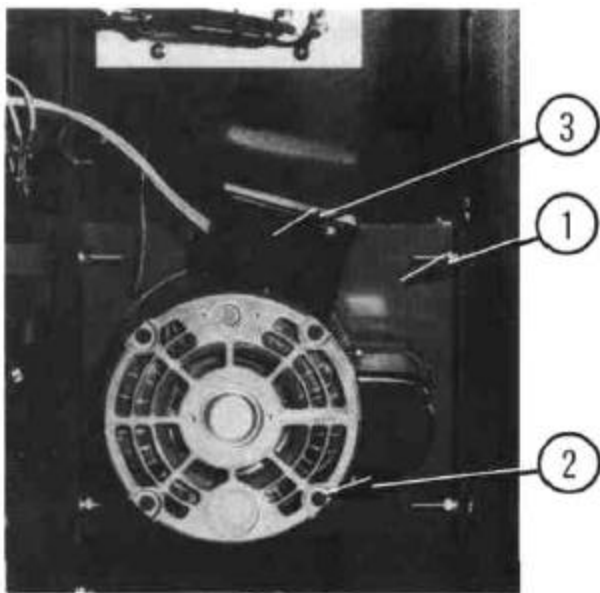

Figure 4-3
5. Remove motor bolt access plate (Fig. 4-3 No. 1).
6. Remove four nuts and bolts holding motor (Fig. 4-3 No. 2) to motor mount.
7. Remove cover from wiring box mounted on motor and disconnect wires (Fig. 4-3 No. 3).